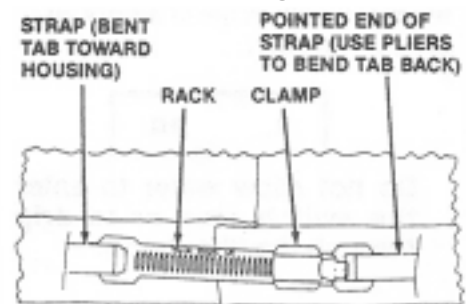

Figure 7: Assemble the hood retaining strap, rack and clamp, and feed through the hem in the filter hood.
14. Slip the bent tab of the metal retaining strap (2) through the loop of the rack (3), making sure that the writing on the rack is on the outside (see Figure 7).
15. With the bent tab of the strap on the inside of the rack; feed the pointed end of the strap through the hem of the filter hood (1) until the pointed end comes out through the other slot in the hem.
16. Put the pointed end of the strap through the loop in the clamp nut (4) (see Figure 7) so there is at least 1/2" of the strap to bend.
17. Use suitable pliers to bend a tab over the clamp nut (4) toward the housing. Crimp both the tabs flat in order to hold the rack (3) and clamp to the strap. (See Figure 7.)
18. Install the filter hood (1) over the main housing (5) so that the hemmed bottom of the filter hood (containing the metal strap you just installed) fits between the two rolled ribs of the housing. Turn the filter hood so the strap clamp is centered at the back of the housing and the filter hood's stripes are aligned with the legs' stripes.